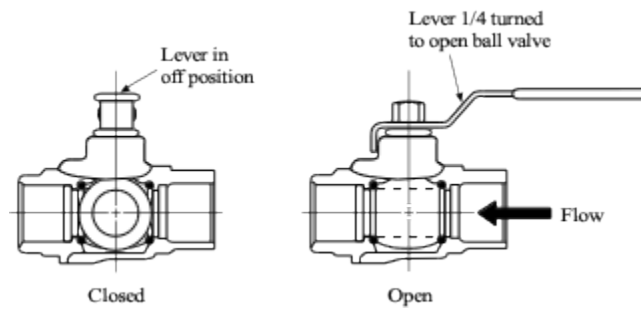

Figure 3. Manual ball valve operation
The ball has a hole drilled through its center. With the handle in the open position, (aligned with the valve) the hole is aligned with the connection openings in the valve body and flow is permitted. When the valve is closed both the handle and hole are positioned perpendicularly to the valve body and flow is stopped (Figure 3).
- Figure 3. “Manual ball valve operation” – The source for this image is unknown. It is being used for non-commercial, educational purposes. To receive credit for this image, please reach out to the publisher.